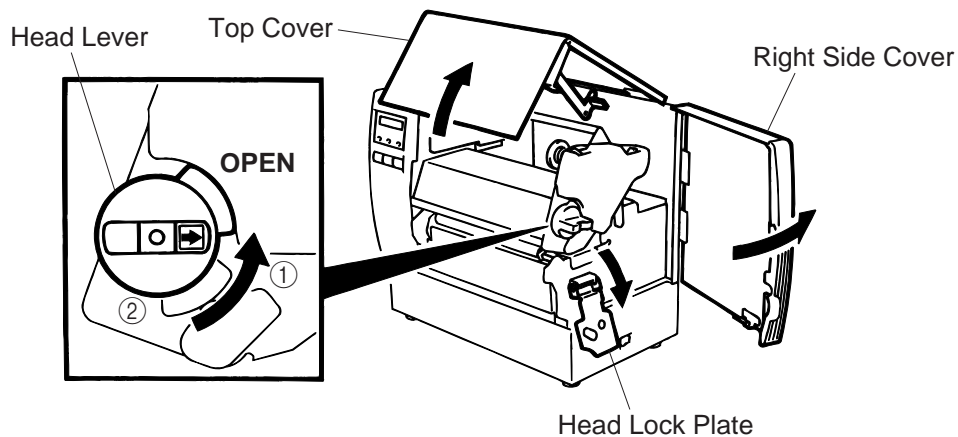

Fig. 7-1
**NOTE:** When removing the ribbon, be careful not to snag the ribbon on the part ①.
9. Turn the head lever to the proper position depending on the used media. (Refer to Fig. 7-1)
- ①: Labels or thin tag paper
- ②: Thick tag paper
**CAUTION:** When using labels ensure that the head lever is set to position ①.